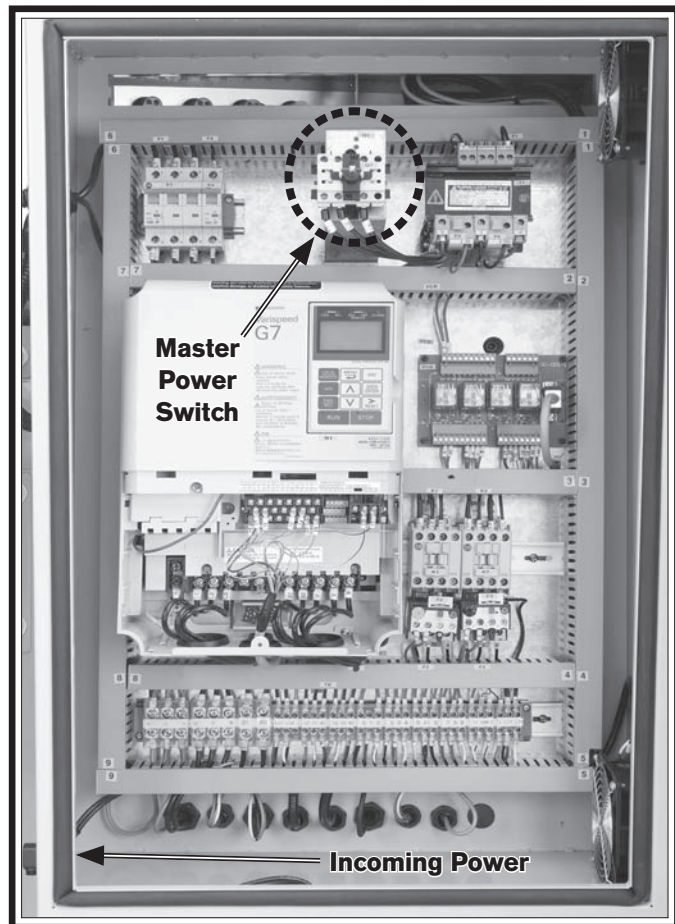

Figure 21. Electrical cabinet.
2. Refer to **Figure 21** to identify the master power switch and the hole at the bottom left of the electrical cabinet for the incoming power.